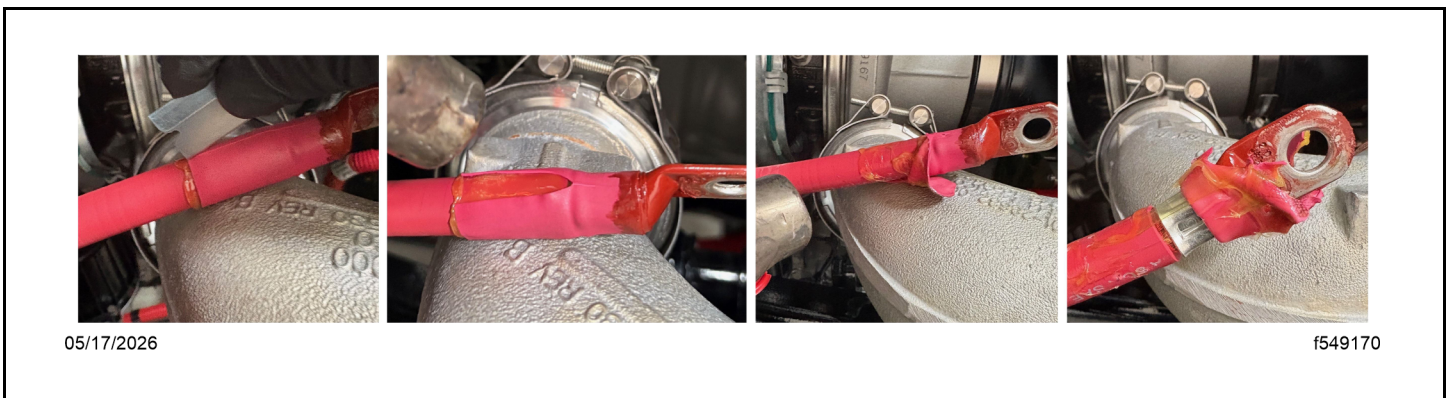

Fig 144, Heat Shrink Removal
- b. Remove the original heat shrink. To do so, heat it, score it, and continue to heat it until the score splits and the adhesive softens. See Fig. Fig. 144.